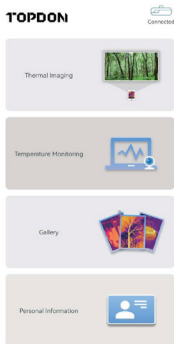

Figure 3.1.3
3. Open the TC001 app. The icon at the top right of the home screen displays **"Connected"** (see figure 3.1.3).